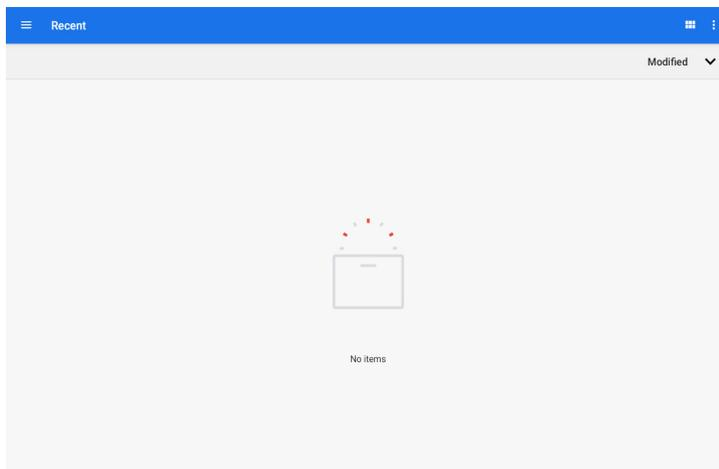

Figure 32.1. Recent update screen.
- The application will take you to this screen (Figure 32.1).